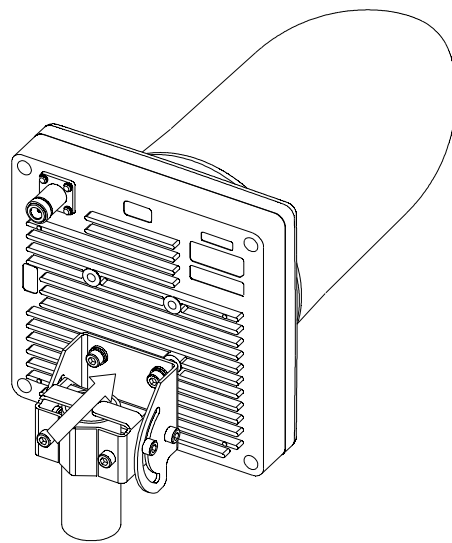

Figure 5-3 Installing the AP-RFU (Horn Antenna)
Attach the AP-RFU mounting bracket to the AP-RFU using the three bolts ③ as shown in Figure 5-3.